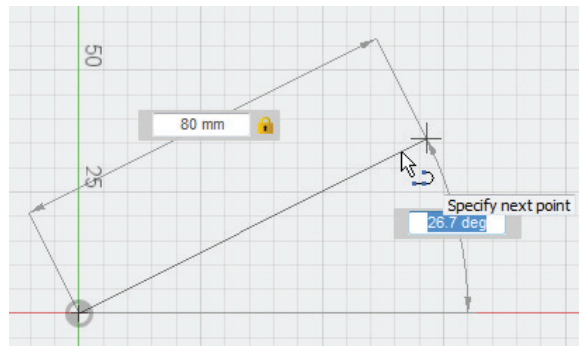

Figure-4. making of line
- Enter the desired value of length in the **Length** edit box. Press **TAB** key to toggle to **Angle** edit box; refer to Figure-4.